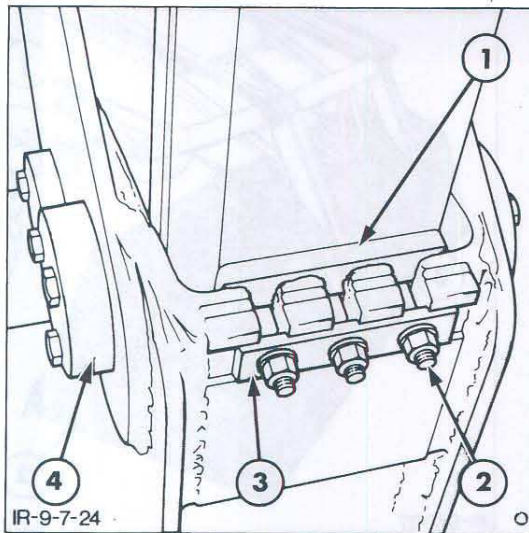

Figure 24
2. Loosen the external wear plate nuts, Figure 24, from upper and lower sides of the dipstick and remove the wear plates.